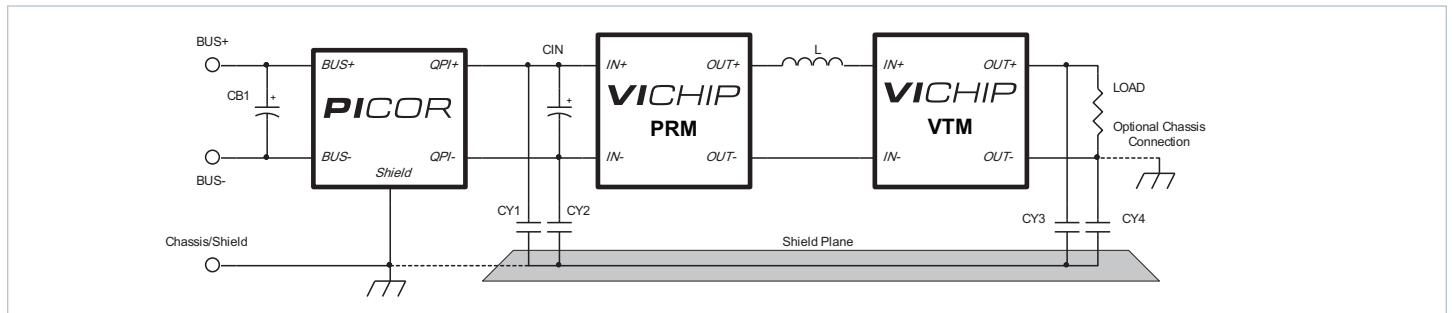

Figure 2 — Typical QPI-11 application schematic with Vicor's PRM and VTM modules in a baseplate configuration. [a]
**Attenuation Plots** — QPI-11 with PRM P024F048T12AL-CB and various VTM modules, connected in baseplate configuration, as shown in Figure 2.